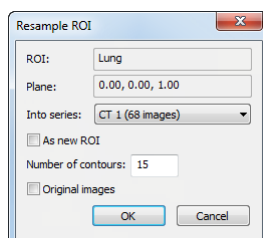

Figure 222 – Resample ROI dialog
2. Select the ROI to be resampled in the ROI list and push the **Resample...** button. The **Resample...** dialog is then displayed (see Figure 222).